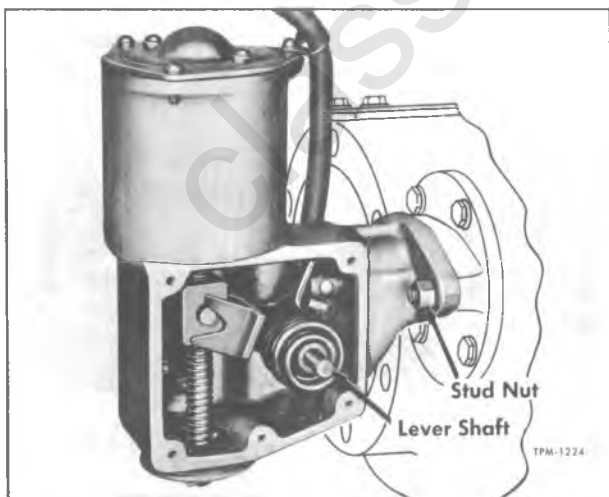

Figure 9—Shift Unit Cover Removed (Rockwell Axles)
2. Loosen shift unit-to-differential carrier stud nuts (fig. 9) to remove preload from shift unit spring.
4. Pull out lever shaft (fig. 9). Disconnect
(Refer to Fig. 9)
Inspect torsion spring (23, figs. 9 and 12) for breaks or wear at lever contact points. Make certain that correct replacement spring is used.